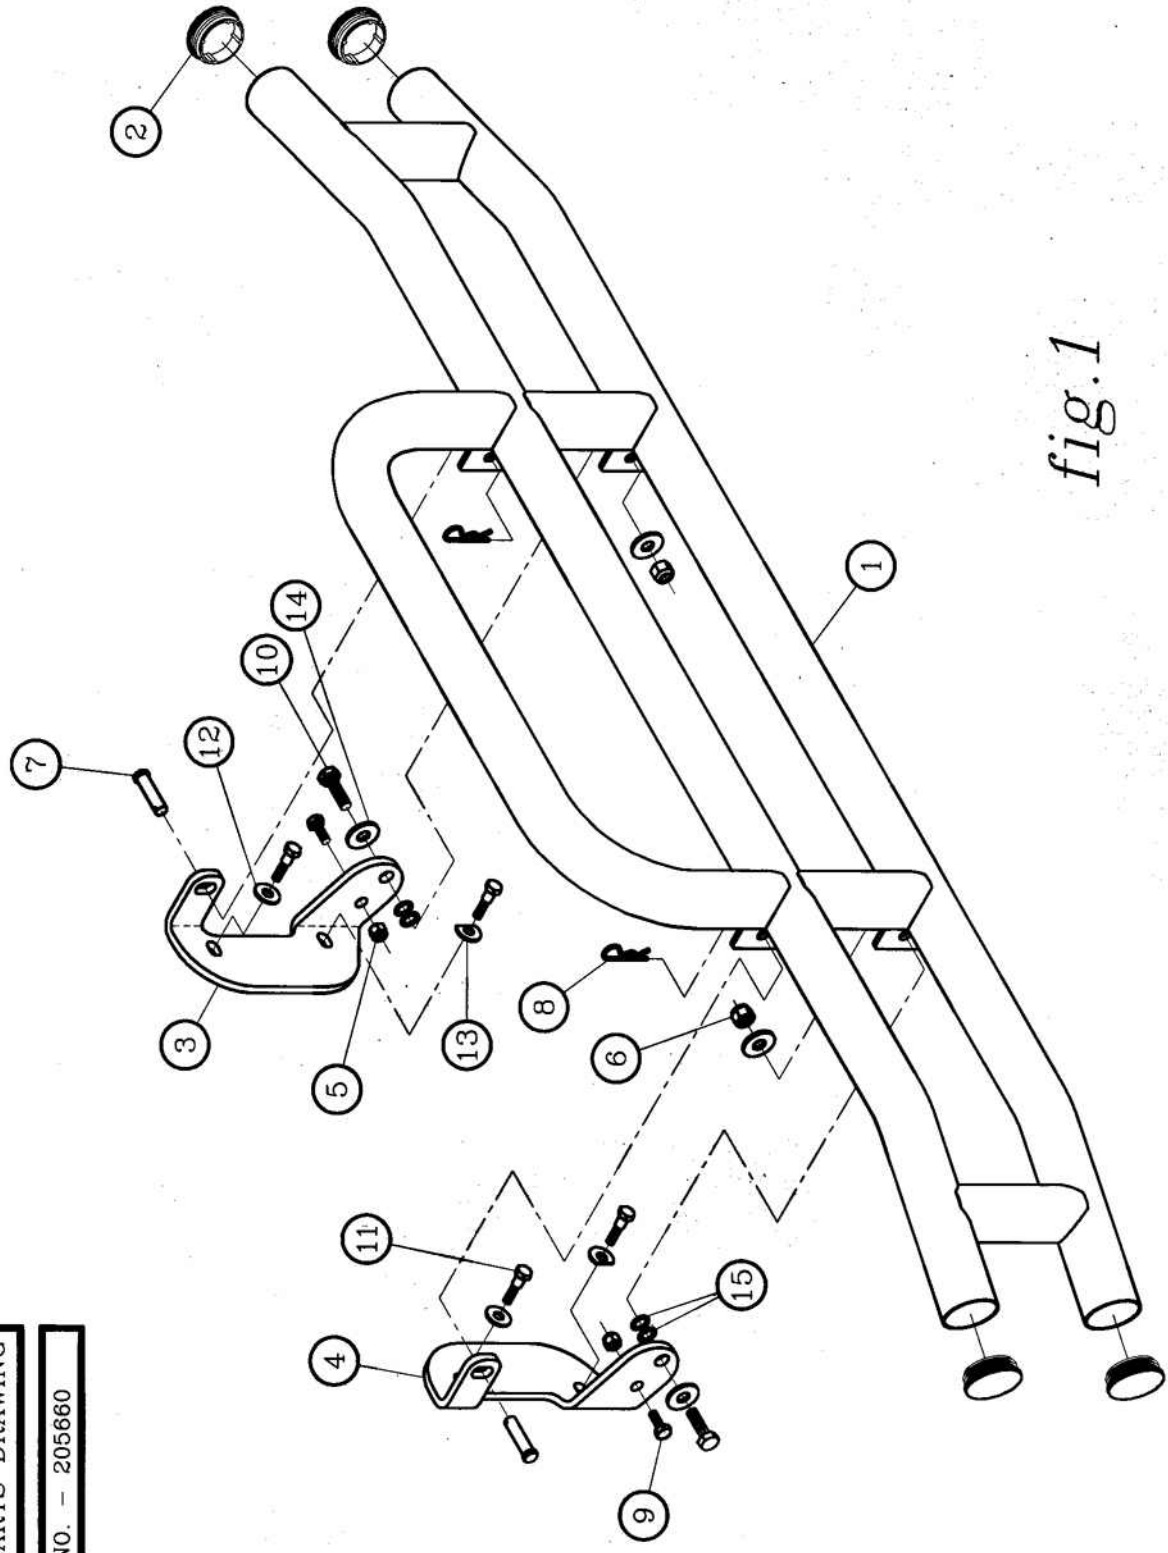

fig.1
2. INSTALL THE MOUNTING BRACKETS (ITEMS #3 & #4), USING THE M12 X 65mm HEX BOLTS (ITEM #11), 1/2" FLAT WASHER (ITEM #12), AND 1/2" CLIPPED FLAT WASHER (ITEM #13) AS SHOWN IN FIG. 1. HAND TIGHTEN ONLY AT THIS TIME, TO BE ADJUSTED LATER.